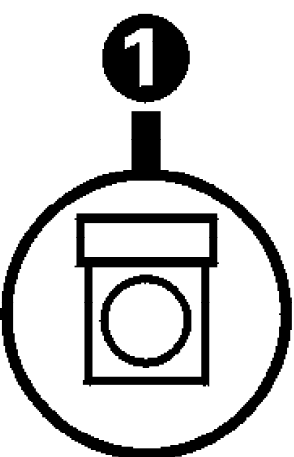
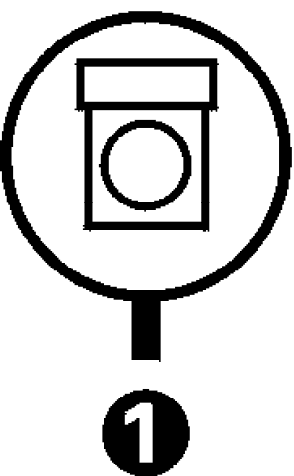

Fig. 3a
Fig. 4a
3. Tilt the yoke up and down to converge the red and blue vertical lines at the 6:00 and 12:00 positions and the red and blue horizontal lines at the 3:00 and 9:00 positions (refer to Figure 5). When the correct position has been found, place a rubber wedge between the yoke and the CRT. If the yoke is tilted up, place wedge one as shown in Figure 3a; if it is tilted down, place wedge one as shown in Figure 4a.
(Display Figures 3a, 3b, 3c, 4a, 4b, & 4c of Wedge Placement Display)